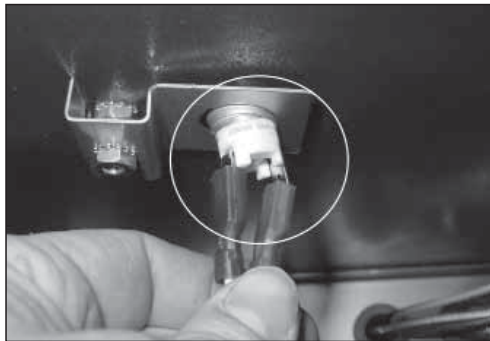

Figure 11
4. Connect the electrical connector to the snap disc. **Figure 11.**